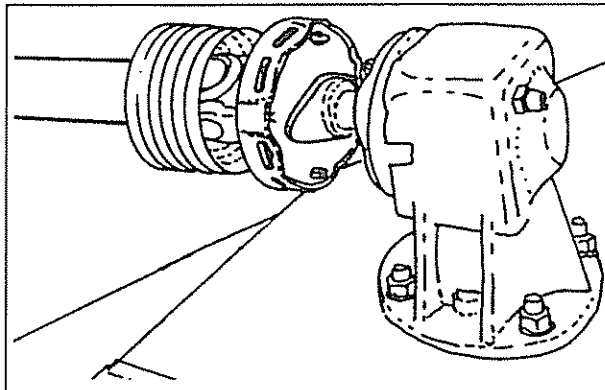

FIGURE 5
1. Attach the slip clutch end of the implement input driveline to the gearbox input shaft securely. Make certain that the slip clutch is fully onto the input shaft splines and that the spring-loaded locking collar is completely seated. See Figure 5.